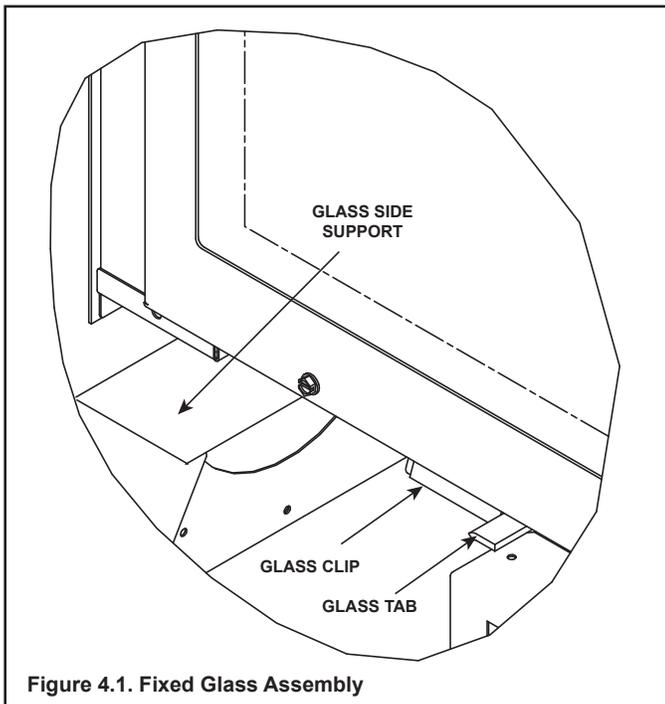

Figure 4.1. Fixed Glass Assembly
3. Use both index fingers to release spring latches. See Figure 4.1.
4. Allow glass to tilt forward. Grasp glass on the upper return lip of glass frame and tilt glass "out" and "down". Lower gently to rest on side supports. See Figure 4.1. Allow top of glass assembly to tilt forward. Lift glass assembly "up" and "out".
4. Hold bottom of the glass as you allow the glass assembly to seat over the four lower glass clips. See Figure 4.1.